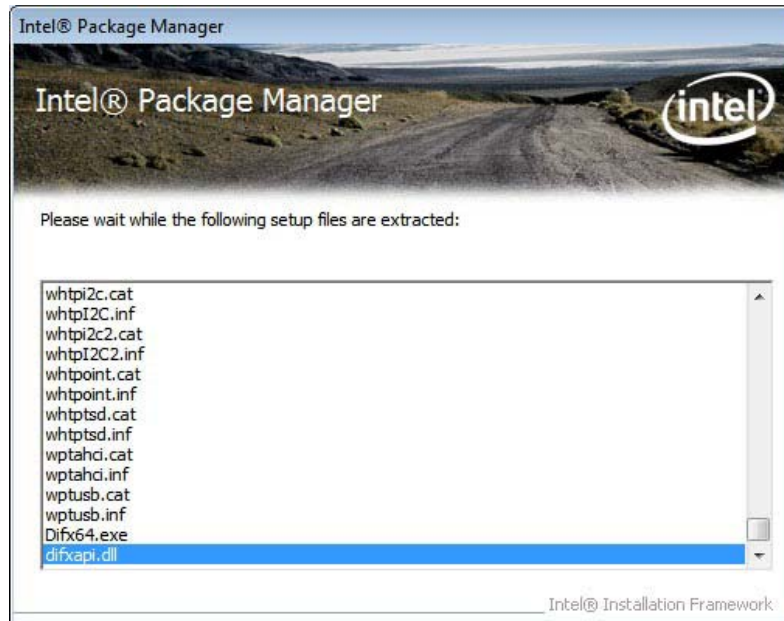

Figure 6-2: Chipset Driver Screen
- Step 6:** The setup files are extracted as shown in **Figure 6-2**.